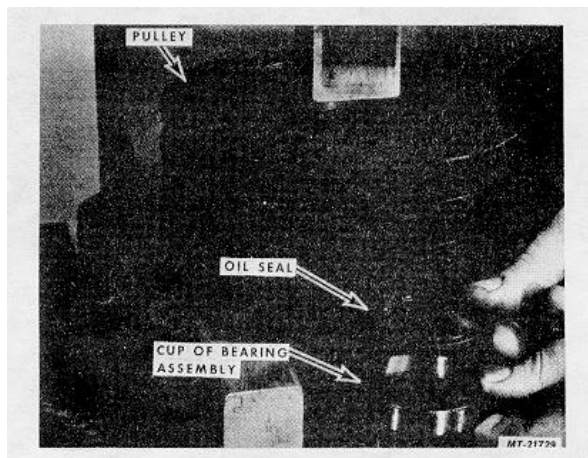

Fig. 37
34. Press out Oil Seal and the cup of Bearing Assembly, Fig. 37.